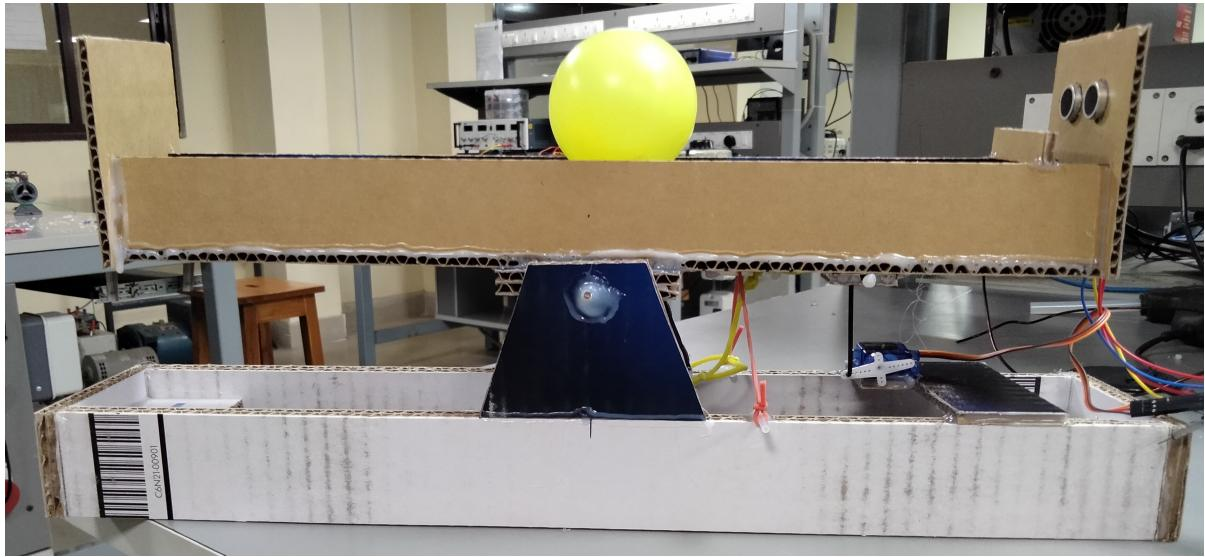
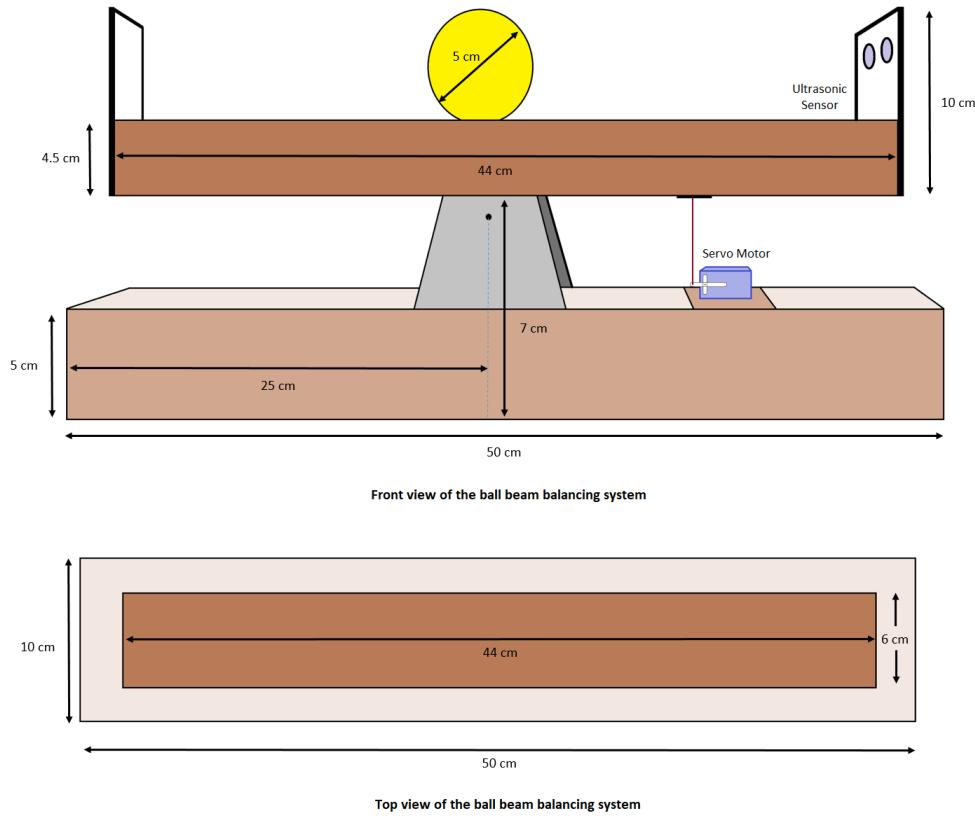

Figure 1: Front view of ball-balance system (balanced position)
Figure 3: Dimensions of ball-balance system
Objectives: A ball is placed on a beam, see Figure 1, where it is allowed to roll with 1 degree of freedom along the length of the beam. A lever arm is attached to the beam at one
Physical setup: In order to make the physical ball beam system, you will be using cardboard. Cardboards should be glued together using the glue gun provided to you. The dimensions of the ball beam set-up in Figure 1 are as given in the Figure 3 below:
2. Place the servo-motor such a way that the shaft connected to the top beam is almost at right-angles to ground when the beam is at balanced position. This is visible in Figure 1.